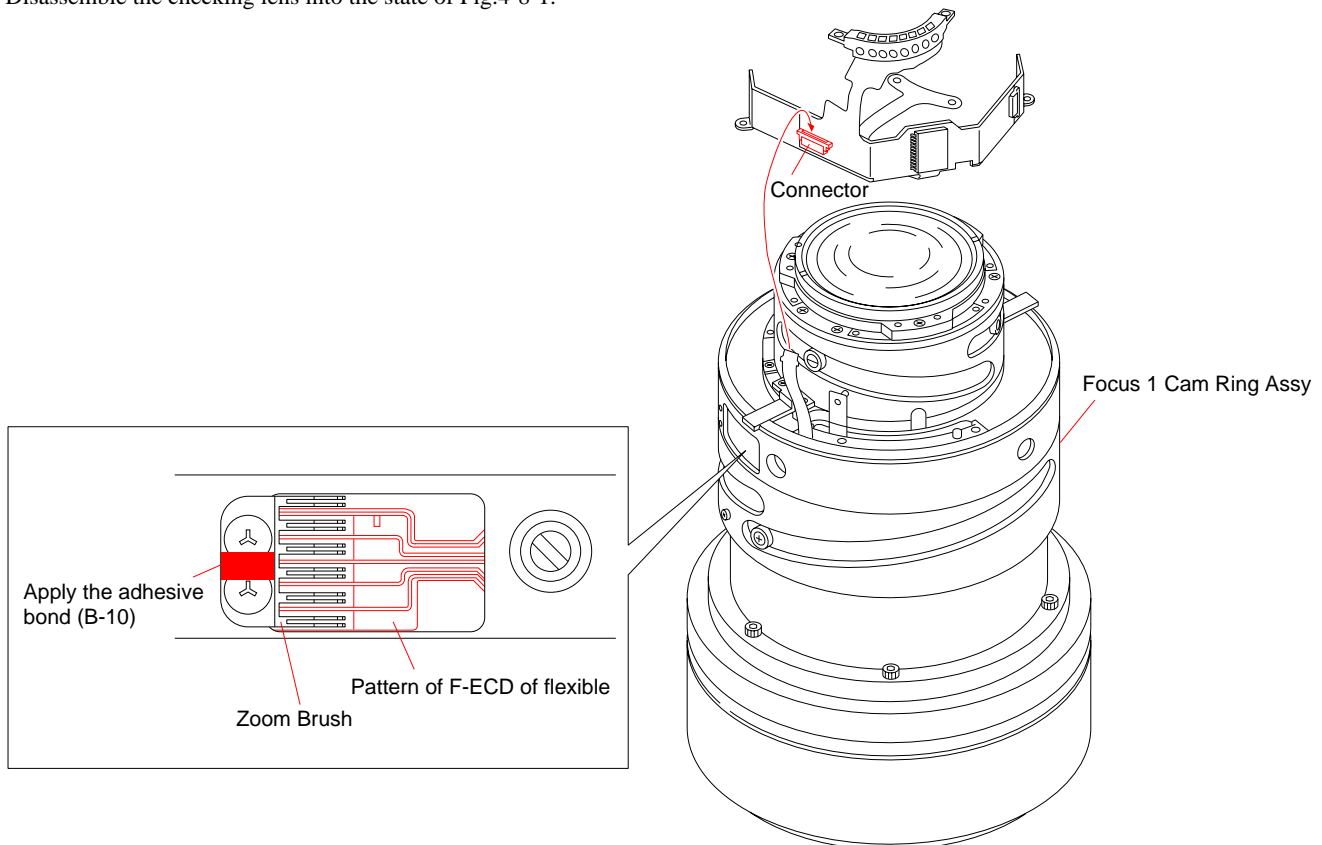

Fig.4-8-1
- 1) Disassemble the checking lens into the state of Fig.4-8-1.
- 5) After adjustment, apply the adhesive bond (B-10) to portions shown in Fig.4-8-1.